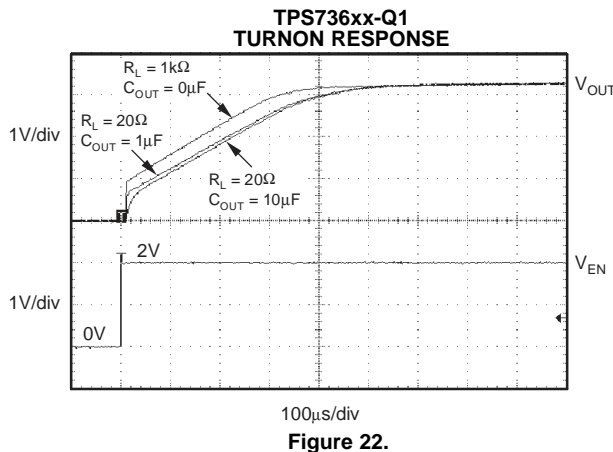

Figure 22.
The enable pin (EN) is active high and is compatible with standard TTL-CMOS levels. A V_{EN} below 0.5 V (max) turns the regulator off and drops the GND pin current to approximately 10 nA. When EN is used to shutdown the regulator, all charge is removed from the pass transistor gate, and the output ramps back up to a regulated V_{OUT} (see Figure 22).